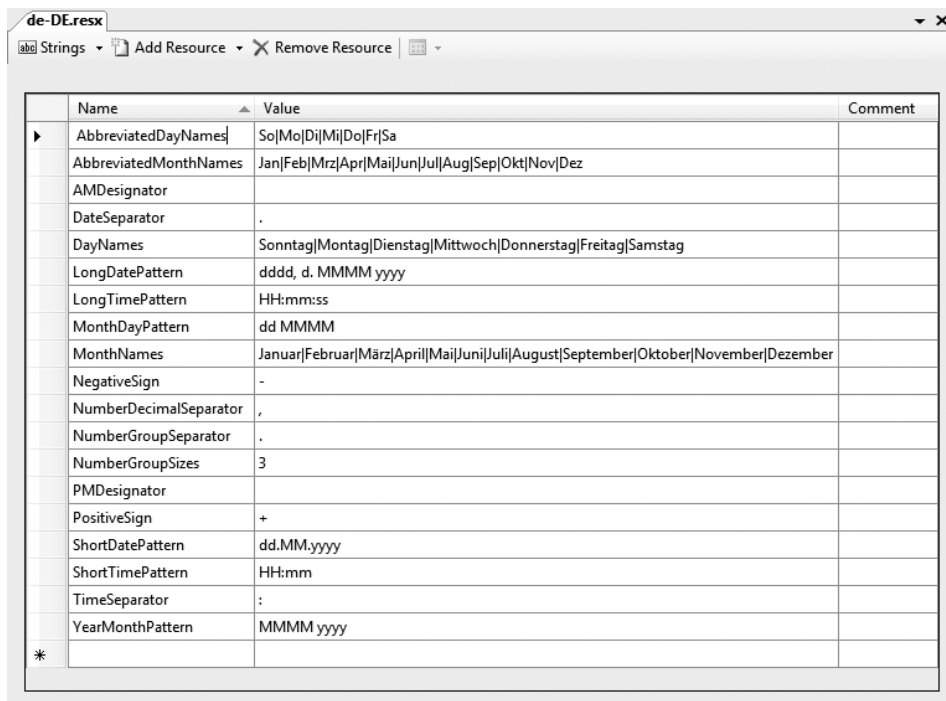

Figure 10-8. Editing culture parameters in the resource designer
5. Double-clicking that newly created resource in the Solution Explorer opens the resource designer, as shown in Figure 10-8. Here, the already described parameters can be created and edited as resource strings.